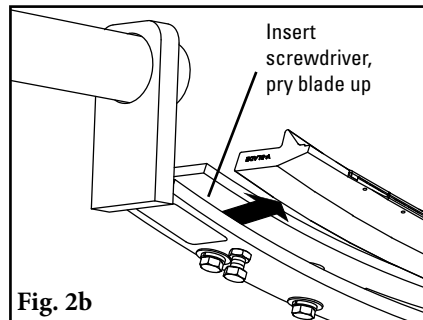

Fig. 2b
- From one end, insert a screwdriver under the blade and lightly pry the blade up and out of the blade holder (Fig. 2b). Once the blade breaks free, pull it out by hand.